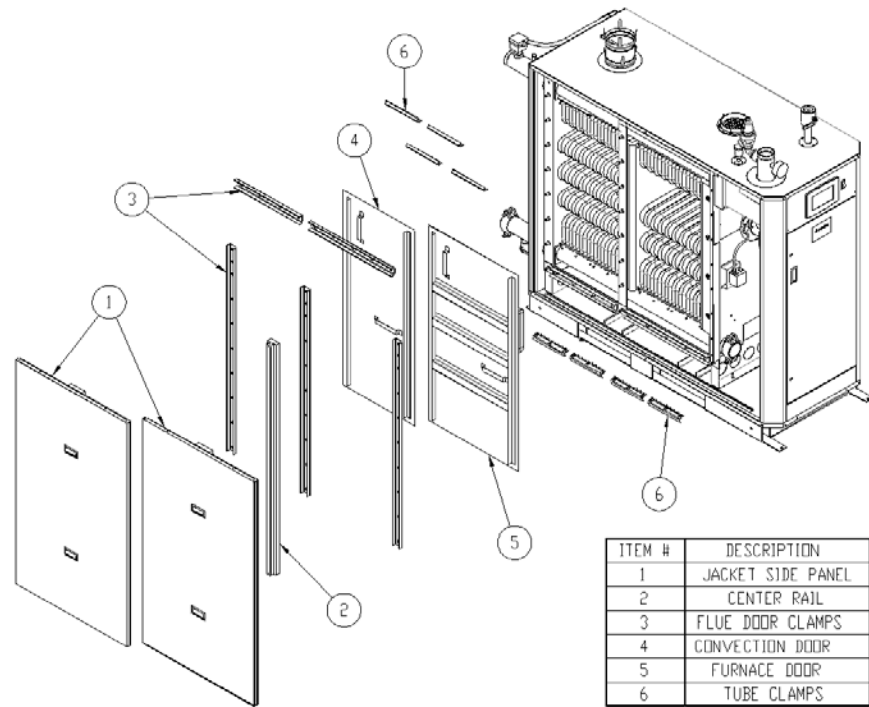

Figure 9: Panel Removal in Preparation for Tube Inspection-FF1000
- d. Remove the boiler's left side jacket panels and flue collector access panels as shown in Figures 9, 10 and 11.